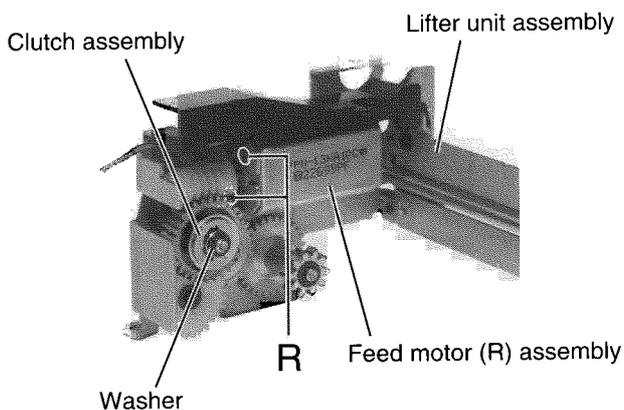

Fig.13
**■ Removing the feed motor (R) (See Fig.13)**